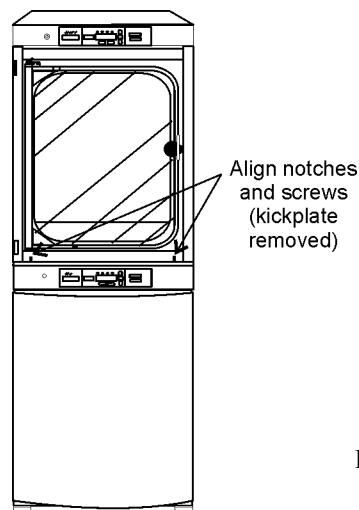

Figure 1-5
2. Remove the kickplate from below the door on the top incubator (Figure 1-5). Two Phillips screws secure the plate. Note that the bottom of the incubator frame is notched.